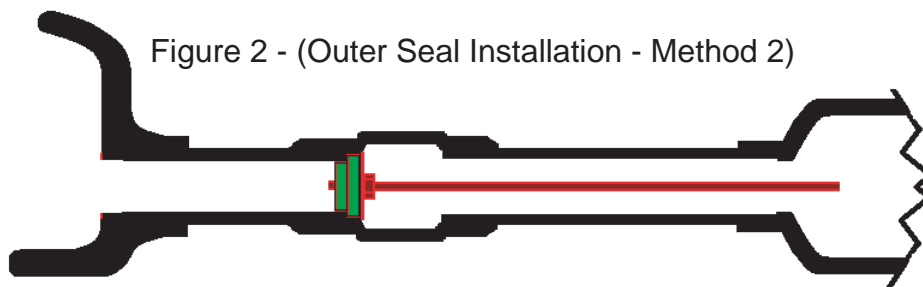

Figure 2 - (Outer Seal Installation - Method 2)
(Method 2) - Will be necessary to fabricate or buy seal insertion tool as shown (Fig.2)
Step 2: Using seal insertion tool, drive seal into bore and impact with hammer (See Fig.2). Check seal, through disconnect opening, to ensure seal remains square in tube seal bore.